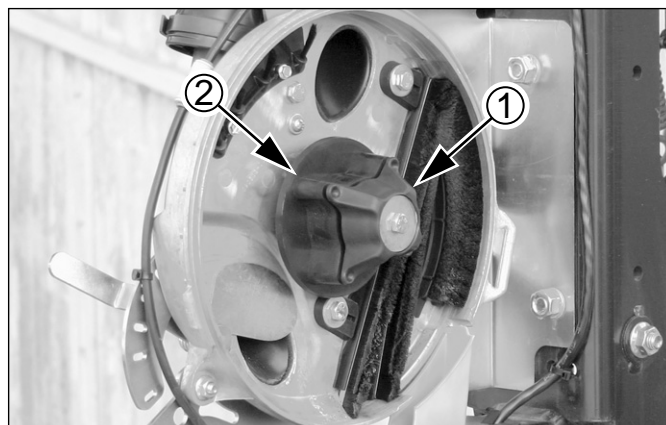

Figure 64
- Refer to Figure 64 (depicting an empty meter)*
5. Make sure clamp ① is aligned with seat ②.
1. Remove rain cover. If seed is present, close shutter ④ to prevent more seed from entering meter. Attach funnel (page 76) or place a tarp under the row to collect seed.
2. Hold seed disk in meter. Rotate disk clamp ① counterclockwise 45° to release disk.
4. Clean seed from all brushes. Clean disk seat (② in Figure 64 page 57), so that new disks can seat fully. Inspect brushes for excess wear and damage. See **"Meter Brush Maintenance"** on page 77.